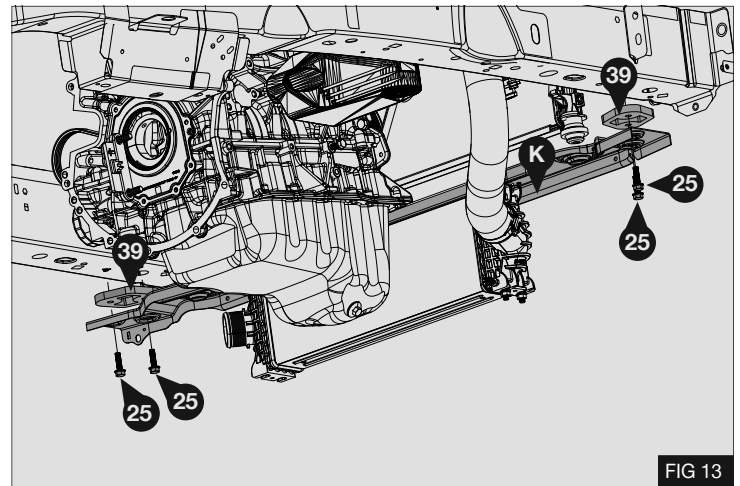

FIG 13
- Re-fit the cooling pack mounting (K) using spacers (39) with 4x M8x30 bolts (25). - Fig 13